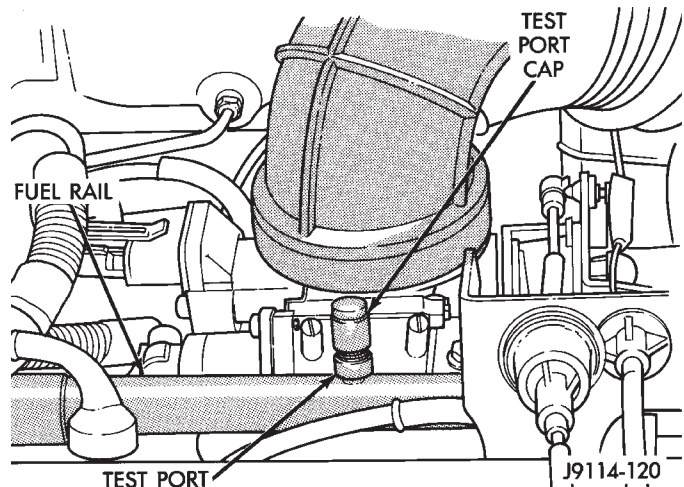

Fig. 14 Fuel Pressure Test Port—4.0L Engine
(1) Remove protective cap at fuel rail test port (Figs. 14 or 15). With the engine off, connect an accurate 0-689 kPa (0-100 psi) fuel gauge to the pressure test port fitting on the fuel rail. The fitting on the pressure tester must be in good condition and free of any leaks before performing this test.